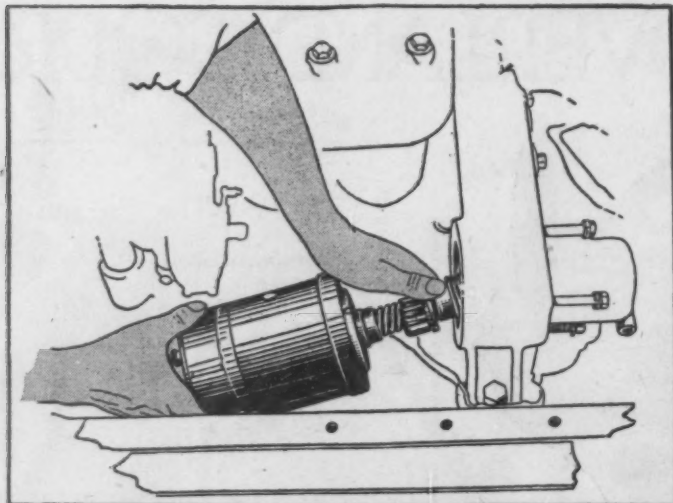

Fig. 7—Removing starting motor, showing counterweight at top
42. Remove starting motor as in Fig. 7.